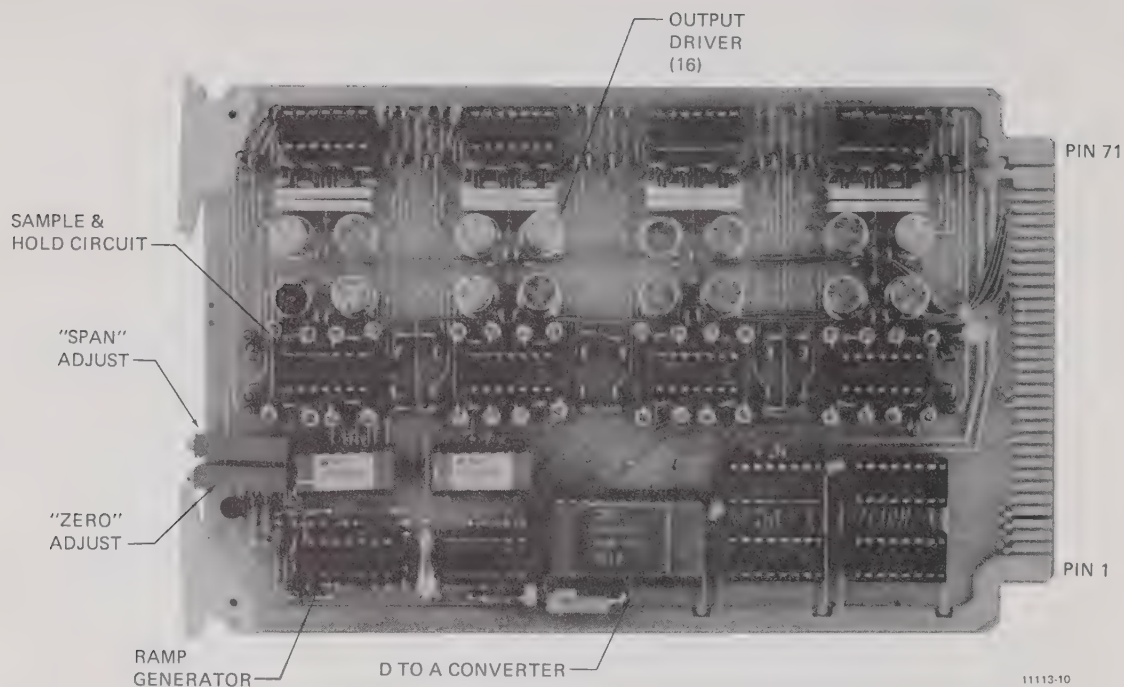

Figure 2.8 - Output Board
2.2.5 Output Board (See Figure 2.8) The output board converts the digital output from the microprocessor into an analog signal for driving a power controller. Three types of outputs are available: